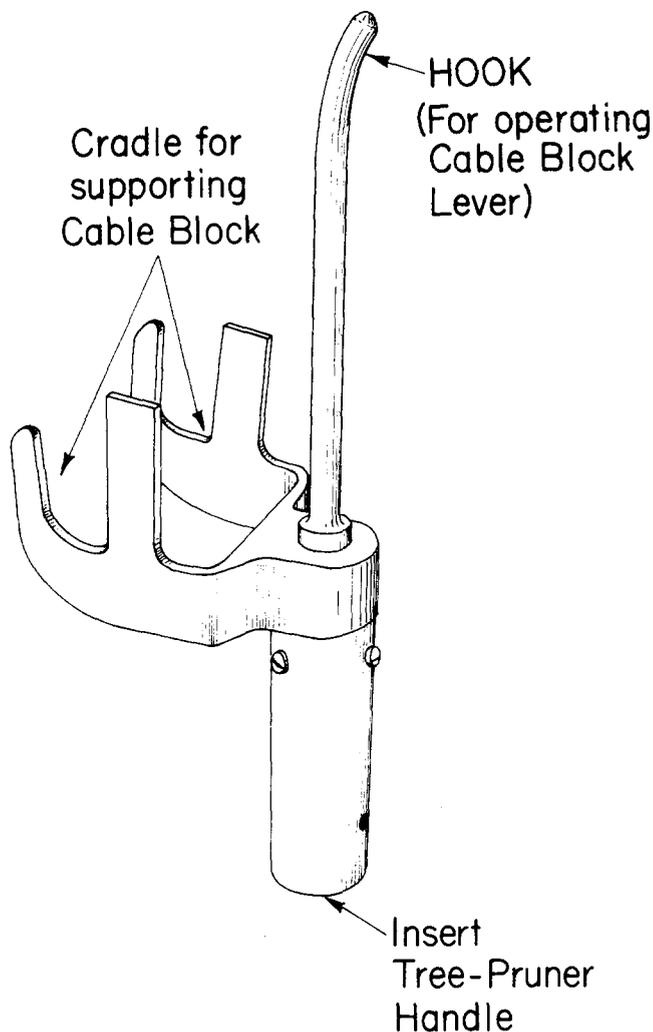
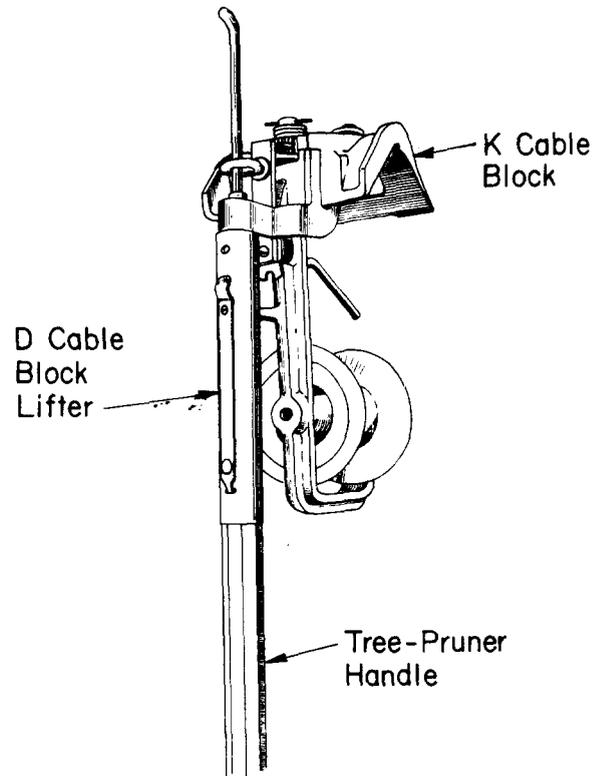

Fig. 5—D Cable Block Lifter
Fig. 6—D Cable Block Lifter (With K Cable Block)
4.01 *D Cable Block Lifter*: The D cable block lifter, shown in Fig. 5, is used with tree-pruner handle sections to place and lock the K cable block on the suspension strand (Fig. 6).